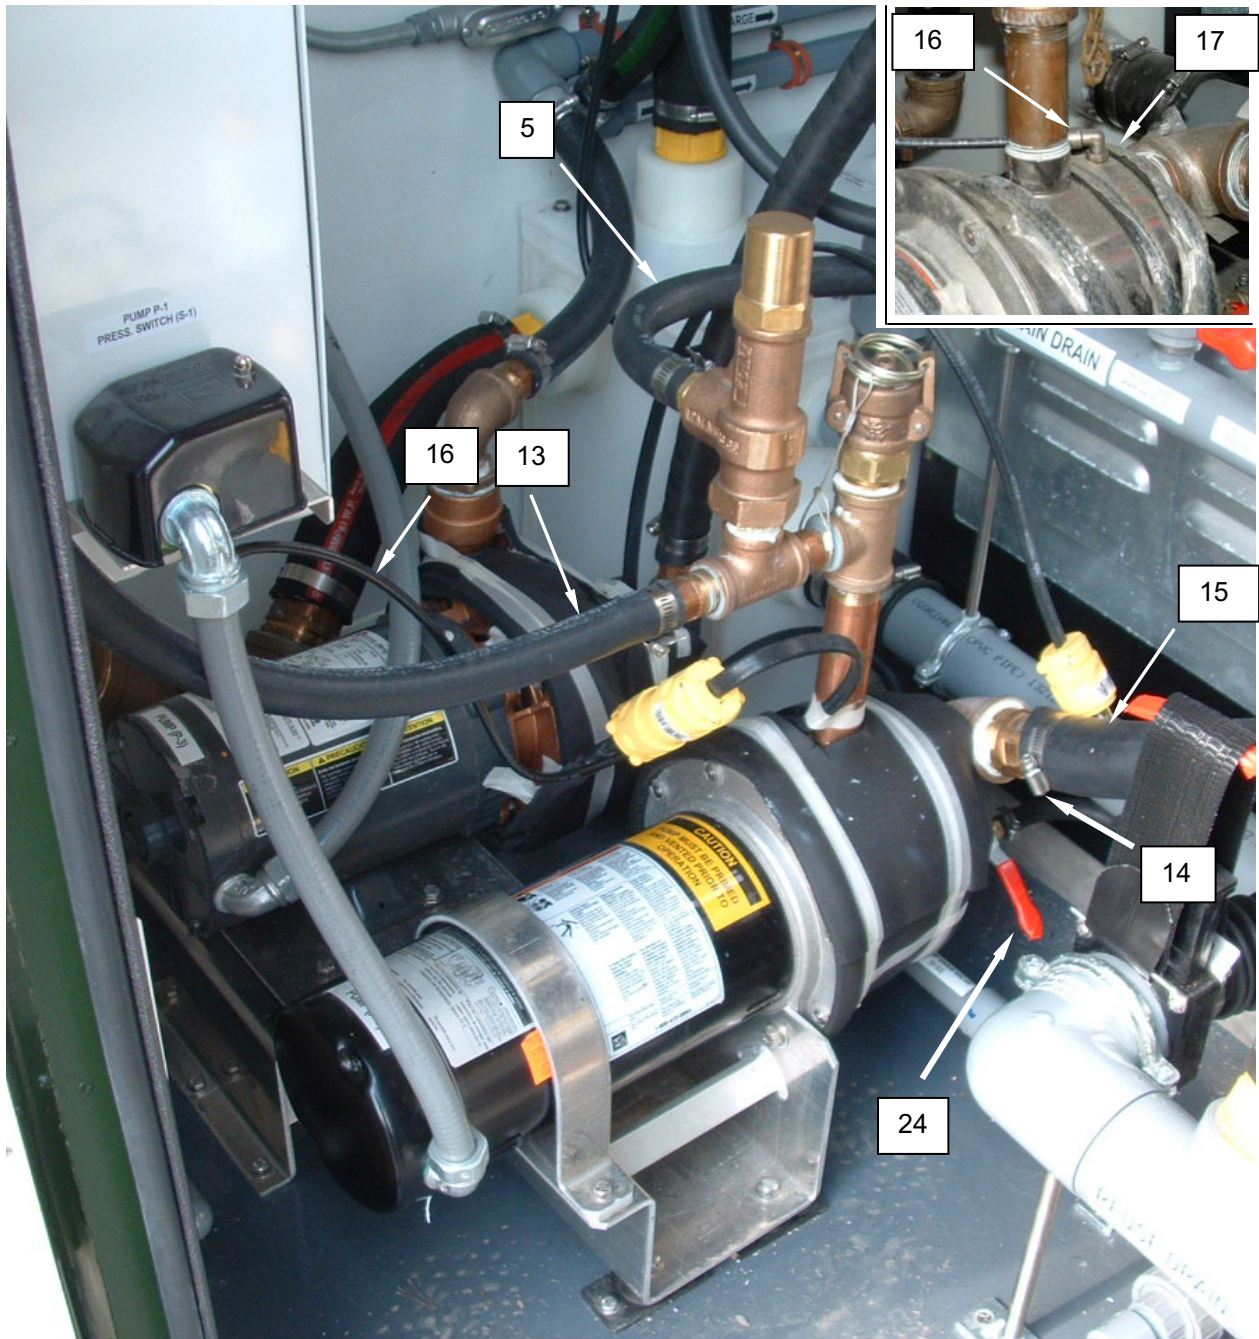

Figure 11. Replace the Pump Impellor.
15. Install the pressure switch tubing (**Figure 11, Item 16**) onto the pump casing (**Figure 11, Item 17**) and retain with compression nut.
16. Install the drain hose (**Figure 11, Item 14**) onto the pump casing (**Figure 11, Item 17**) and retain with hose clamp.
17. Install the pump suction hose (**Figure 11, Item 15**) onto the hose barb and retain with hose clamp.
18. Install the pressure relief valve hose (**Figure 11, Item 5**) and retain with hose clamp.
19. Install the discharge hose (**Figure 11, Item 13**) and retain with hose clamp.
21. Close pump drain valve (**Figure 11, Item 24**). Operate IAW procedures given in TM 10-3510-226-10 and monitor for normal operation.